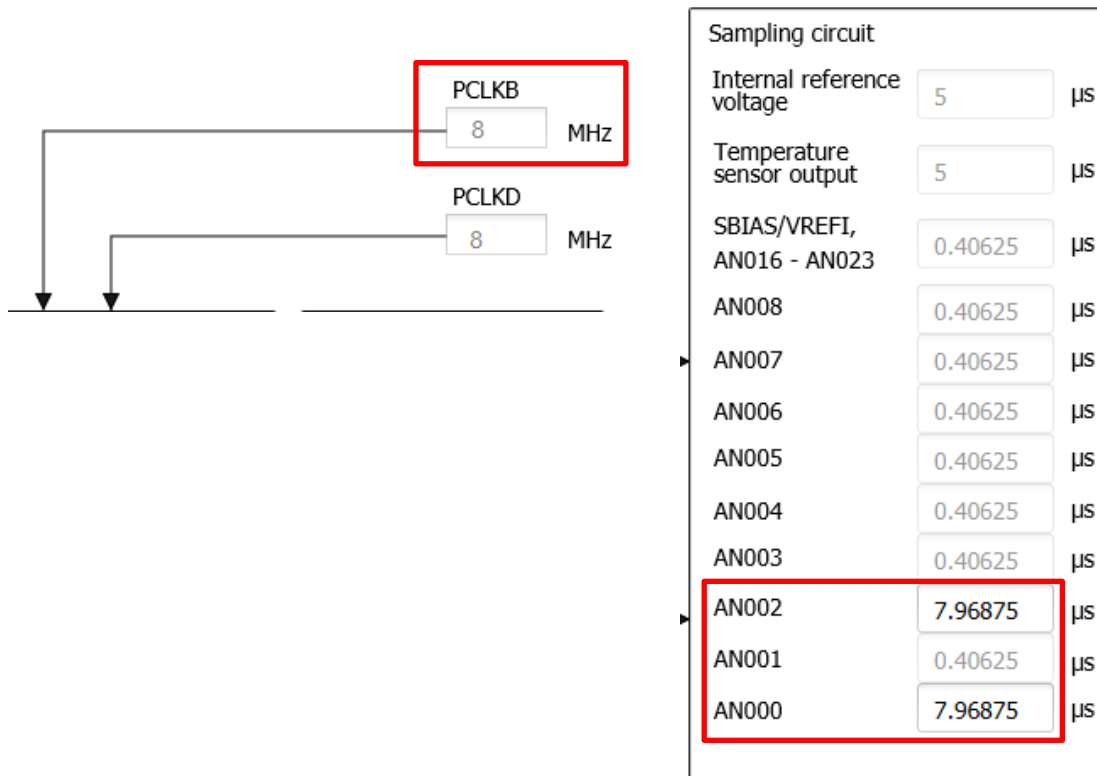

Figure 3-11 PCLKB (left) and ADC16 sampling time (right) configuration
- When tuning ADC16: PCLKB frequency is 8MHz (refer to the left on figure 3-11) and the sampling time is set as a large value (refer to the right on figure 3-11)